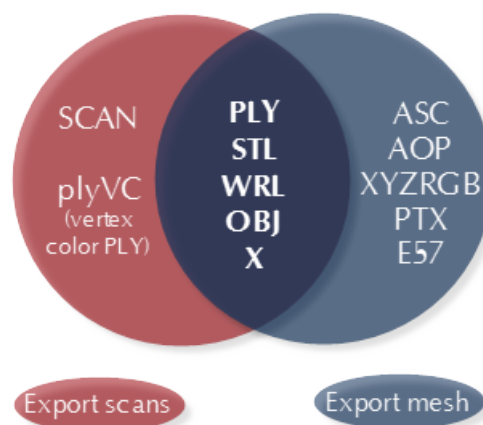

Figure 55: Formats available for each command as well as for both commands.
4. Select *Scan export format* using the eponymous dropdown list (see Figure 55).